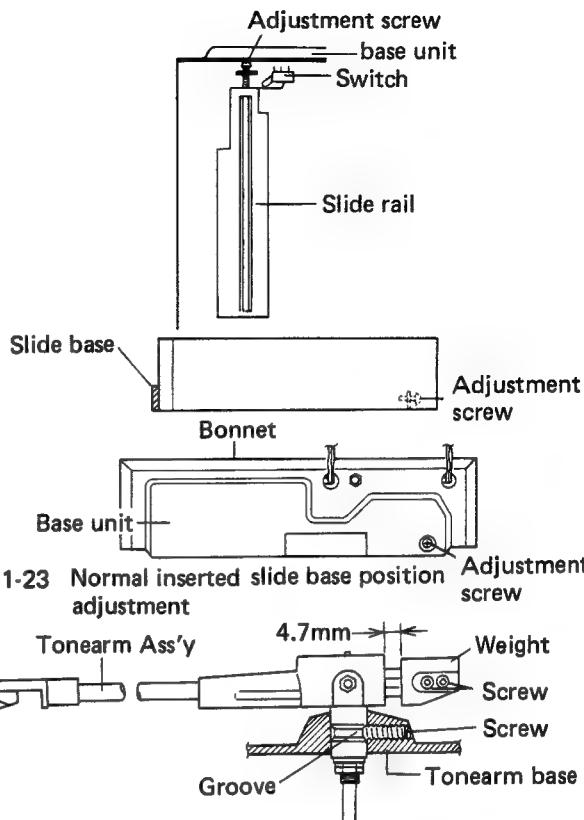

Fig. 1-23 Normal inserted slide base position adjustment
- D. This adjustment simply involves turning the adjustment screw from the rear of the turntable as shown in Fig. 1-23.